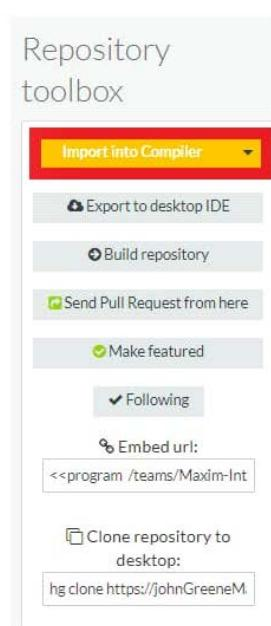

Figure 6. Highlights the Import into Compiler button with a red box on the MAX11301WING_Demo repository.
- Import the MAX11301WING_Demo program at Maxim-Integrated/MAX11301WING_Demo into the compiler's program work space by clicking the Import to Compiler button on the right-hand side. Figure 6 highlights the import button on the MAX11301WING_Demo repository page with a red box. This automatically opens the Mbed compiler in a new window. When this window opens, select Import to import the program.